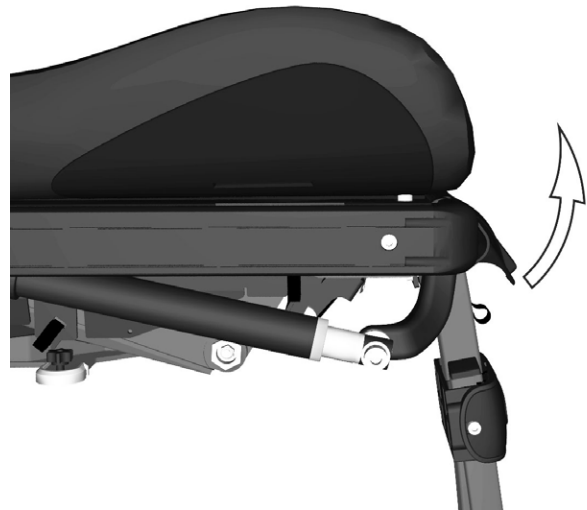

Figure 225. Lift up the legrest's top cover.
2. Lift up the legrest's top cover. See fig. 225.